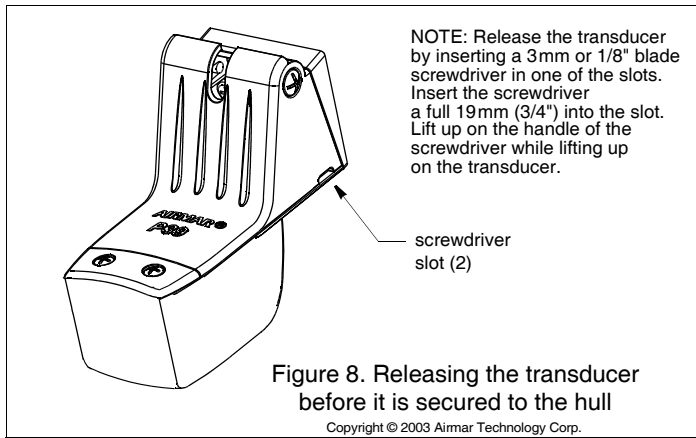

Figure 8. Releasing the transducer before it is secured to the hull
- **Before installation**—If the transducer is snapped onto the bracket but not secured to the hull, use this method. Release the transducer upward by inserting a *3mm or 1/8"* blade screwdriver into one of the slots on the side of the transducer (see Figure 8). Be sure to insert the screwdriver a full 19mm (3/4") into the slot. Lift up on the handle of the screwdriver while lifting up on the transducer.